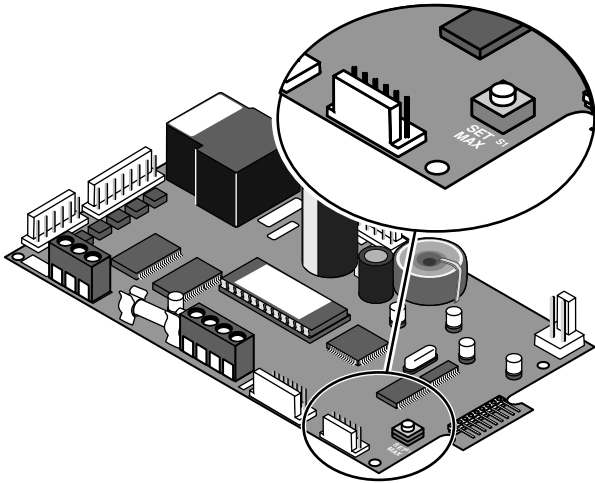

FIGURE 26: Max Temperature Set Point Controls
3. Push the Max. Temp. Set Point button on the back of the control board (see Figure 26). The following sequence should happen: